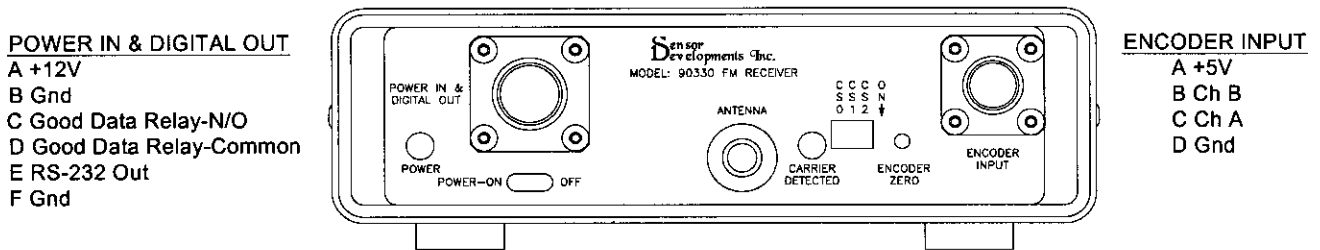

Figure 10 - Model 90330 Connections, side 2
- Step 2: Momentarily press the encoder zero button on the Model 90330. See figure 10 for location of this button.
- Step 2: Connect the encoder as shown in figure 10.
- Step 3: Screw on the antenna as shown in figure 10.
figure 10 as a reference for the switch location.
Step 5: Connect power to the power input pins as shown in figure 10 and turn on the power switch.
The unit will receive a digital signal from a near-by transmitter on the channel selected in step 4 above. When this happens, the yellow “carrier detected” indicator will light. The green “good data” indicator will light showing that the digital data was recovered without error. The good data is then fed to the Digital to Analog converter, and on to the analog output. The analog output is buffered and filtered. The filter is there to smooth the steps that are inherent in the output of the D/A converter. In the event that the data is found to be in error, the good data light will go out, a beeper will sound a short tone and the good data relay contacts will close. In the event that the unit loses power, the relay contacts will rest in the closed position, indicating an error. The contacts are available at the power connector as shown in figure 10.
The encoder’s position and rate of change are available at the encoder output connector. As with the sensor output, the encoder outputs are buffered and filtered. Since the encoder input is compatible with incremental encoders only, the position output must be zeroed. To do this, position the encoder to the desired zero position, and press the “zero encoder” button. See figure 10. This button is recessed in the panel to prevent accidental zeroing. The zero value will be lost if power is removed. The encoder’s output connector provides 2 position signals, thus providing 2 available resolutions. Refer to page 16 of this document for specifications on resolution and rate.
The Model 90330 is equipped with an RS-232 serial port for connection to a computer. See figure 10 for connector wiring. Data from the serial port reflects the sensor data only. The encoder data is not sent out the serial port. The data output is a binary number (12 bit A/D conversion) that requires the receiving program to scale the data and decide if the data is good or not, based on a flag set or cleared by this receiver. Data is sent out at 38.4 Kbaud and the format is 8 bits, 1 stop bit, no parity (8,1,N). The format of the data is high byte, low byte. The A/D's highest 6 bits are located in the lowest 6 bits of the first byte. The msb of the first byte is 1 to mark it as first. The next bit is the error flag, which is 0 if the data is good, 1 if it was bad. The second byte contains the A/D's lowest 6 bits located in the lowest 6 bits of the byte. The msb of the second byte is 0 to mark it as second. The next bit is a null bit that will always be 0. For example, if the A/D reading was 4095 counts, the binary representation of the reading would be 111111111111. Assuming the data was good, the first packet sent would contain 10111111 and the second packet would contain 00111111. If the data had been bad, the first packet would contain 11111111 and the second packet would contain 00111111.